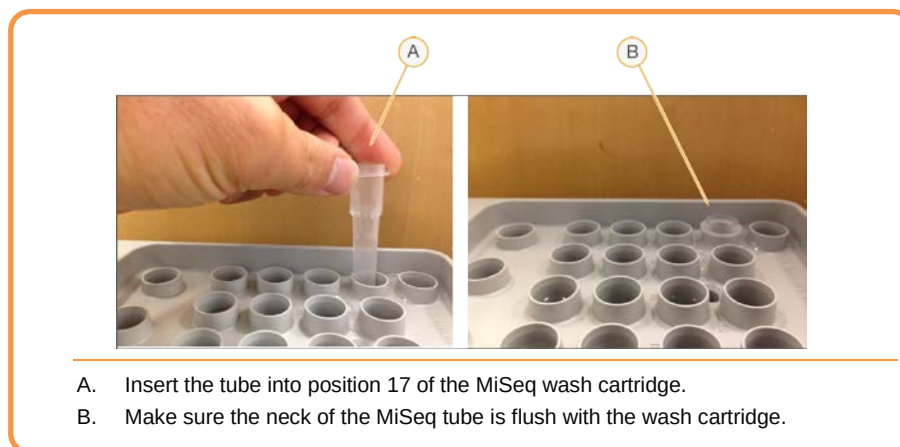

Figure 2. Inserting the 0.01% Sodium hypochlorite wash tube in wash tray
NOTE: The second dilution (0.01%) may be prepared in a MiSeq wash tube/reservoir (Figure 2, Item A).
- 9.10.4. Insert the wash tube into position 17 in the designated bleach wash tray until the neck is flush with the tray (Figure 2, Item B).